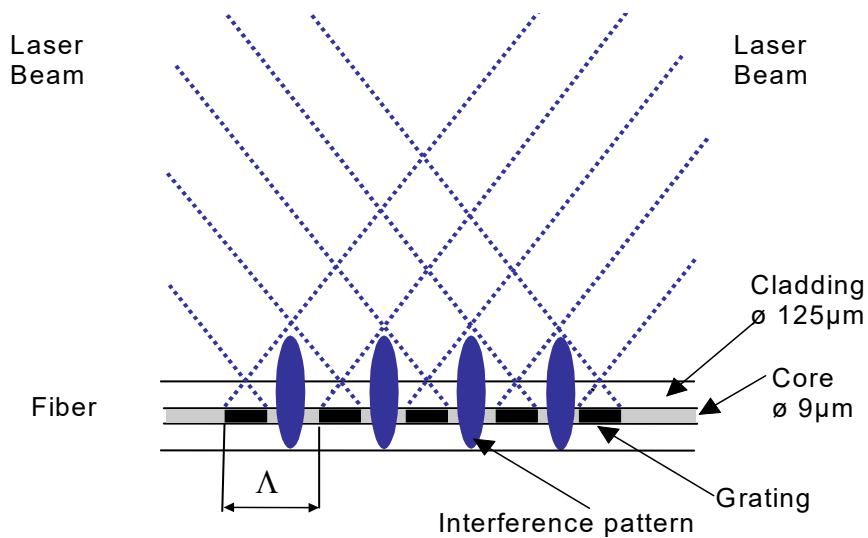

Figure 5: FBG writing – UV laser interference
Major writing techniques are based irradiation with ultra-violet (UV) laser. Doped core of standard fiber is photo sensitive to UV. In other words, refractive index profile of such fiber is permanently altered by UV irradiation. This feature can be used for inscribing a refractive modulation into the fiber core. If the UV light falling on the fiber has a periodic intensity variation, that will result in a periodic refractive modulation into the fiber core. This periodic intensity pattern is generated by a UV laser beam interference, see figure 5. Generating a precise stable interference pattern is not an easy task.